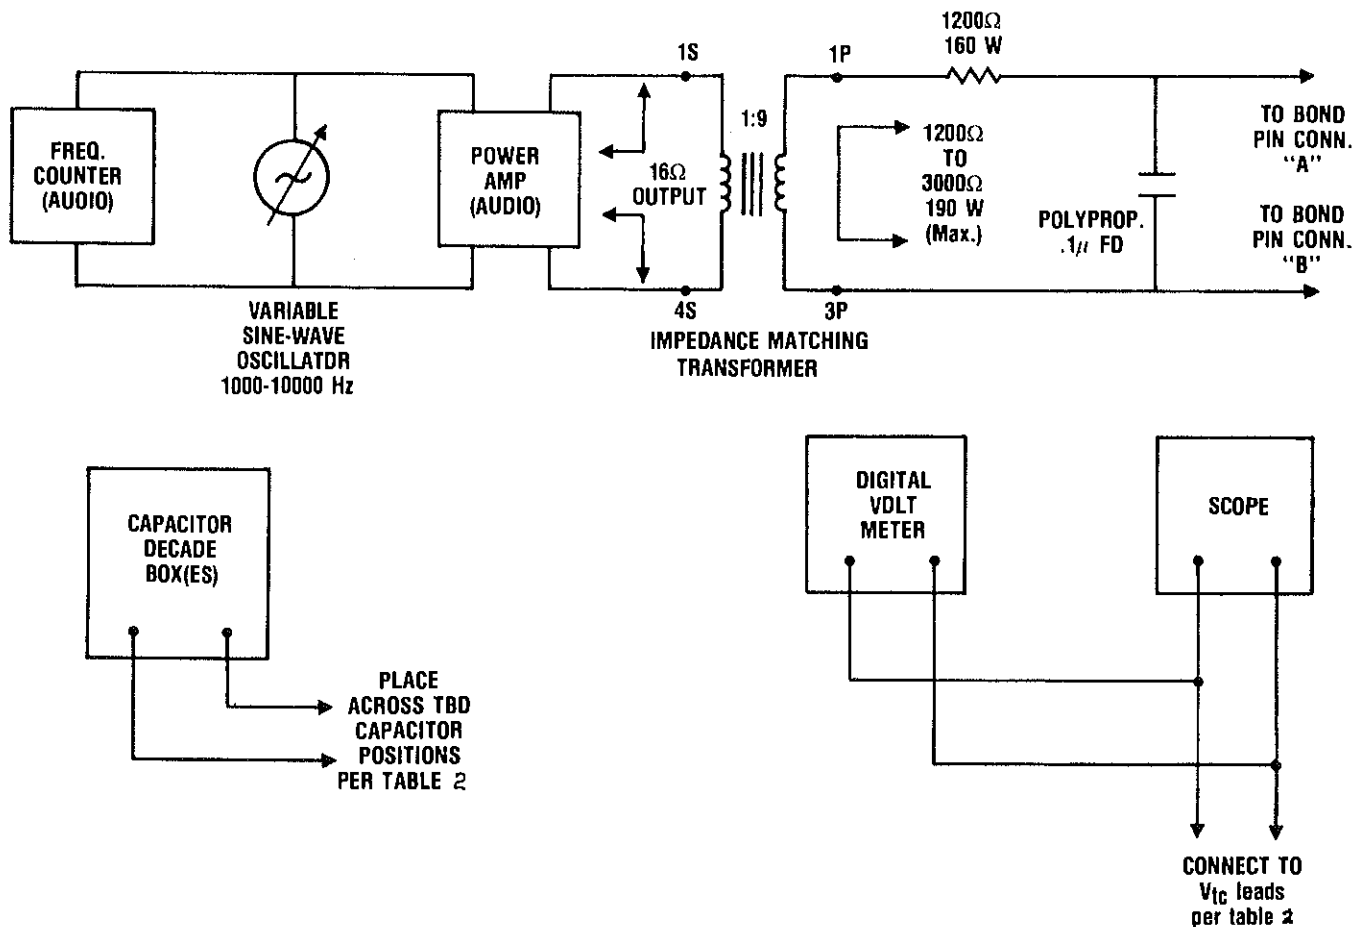

Figure 4-1 Tuning Circuit Test Set-Up
The best method to analyze bond failures is to test the bond in the circuits of Figure 4-1 or 4-2. A source voltage is applied and then the frequency is swept through the audio frequency range. Voltage peaks across the wayside terminals or the track terminals are noted. These peaks should occur at or near the tuning frequencies of the bonds. There should be three peaks.
2. Assemble circuit of Figure 4-1.